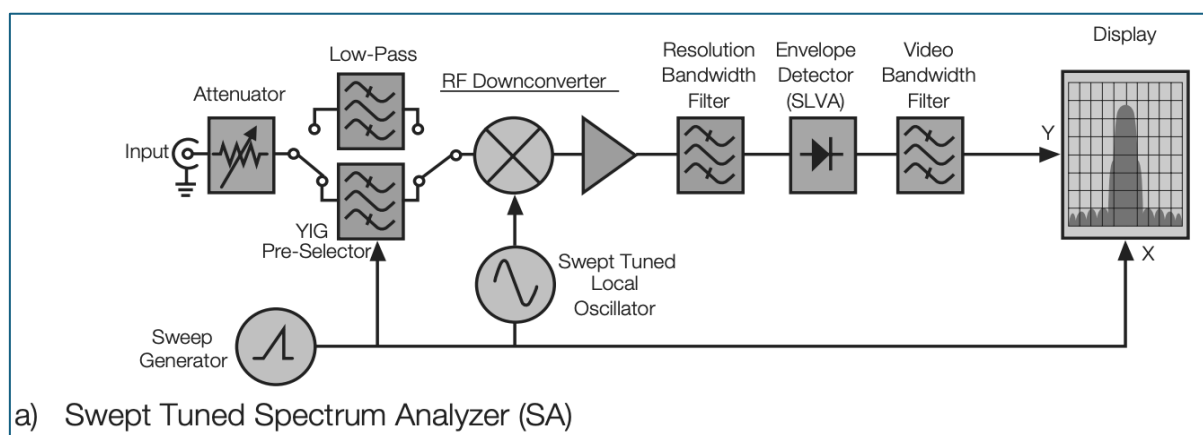

Fig. 1. Block diagram of SA analyser
Swept Spectrum Analyzer (SA). An SA, also called superheterodyne spectrum analyzer, downconverts the input and sweeps a narrow filter (resolution bandwidth, RBW) across the chosen frequency span, measuring one small slice at a time (Fig. 1, a). This approach gives strong dynamic range and accurate results for steady, continuous signals. However, because it looks at only one slice at any instant, rapid changes in a signal may be missed if they happen between slices [1].